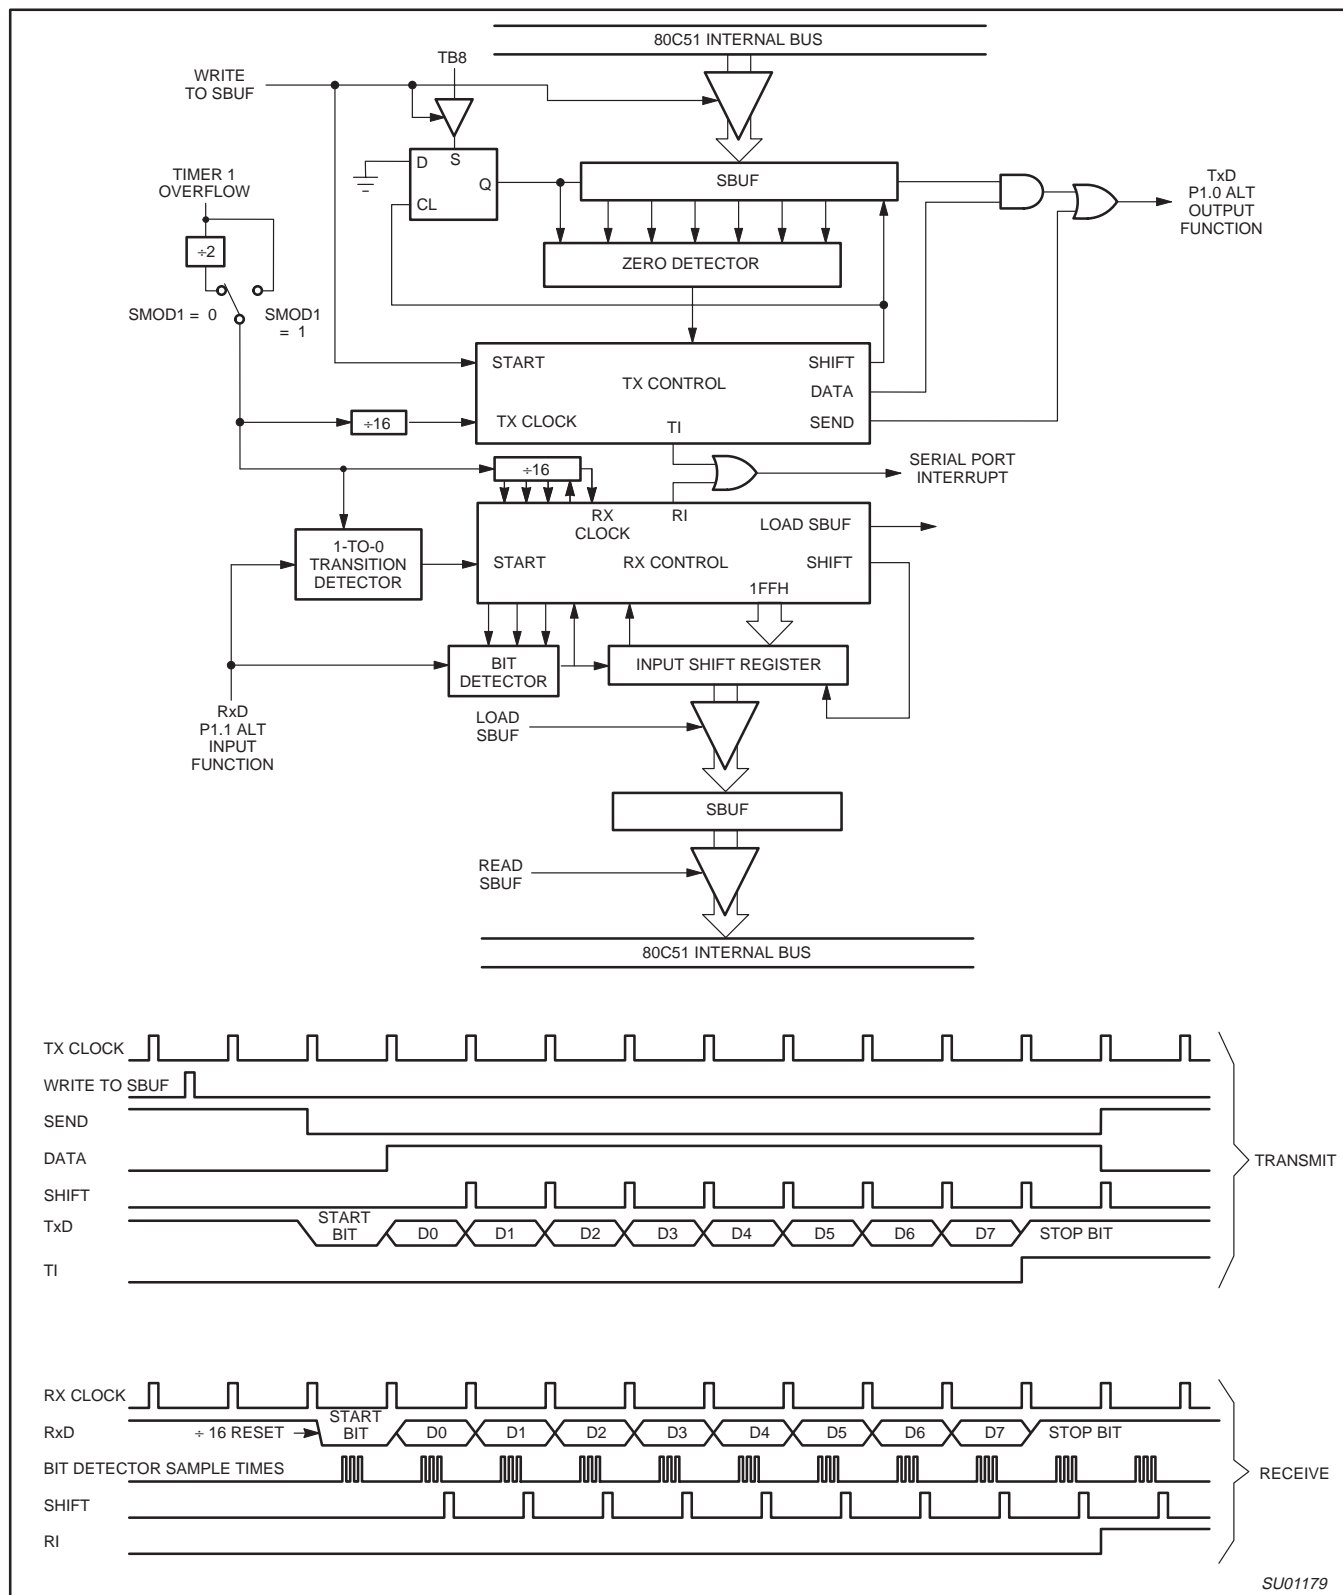

Figure 30. Serial Port Mode 1
Ten bits are transmitted (through TxD), or received (through RxD): a start bit (0), 8 data bits (LSB first), and a stop bit (1). On receive, the stop bit goes into RB8 in SCON. In the P87LPC764 the baud rate is determined by the Timer 1 overflow rate. Figure 30 shows a simplified functional diagram of the serial port in Mode 1, and associated timings for transmit receive.